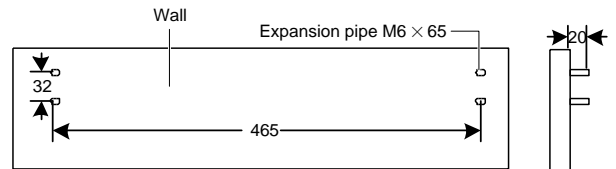

Figure 2-1 Installation dimension of cabinet base
2. By referring to the dimension shown in Figure 2-1, mark the central points of the installation holes on the floor. Use an electric drill (aiguille: Φ8) to dig holes (depth: 45mm) at the marked points. Clean the holes off dust. Put the four expansion pipes (M6 x 65) into the holes and keep 20mm exposed.